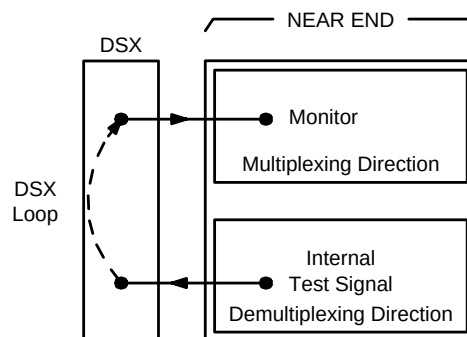

Figure 2. Transmission Test of DS3 Signal in DEMUX Direction
10. See Figure 2. At the near-end DSX-3 cross-connection associated with the DDM-2000 being tested, connect a patch cord from the **OUT** jack to the **IN** jack for the DS3 channel to be tested.